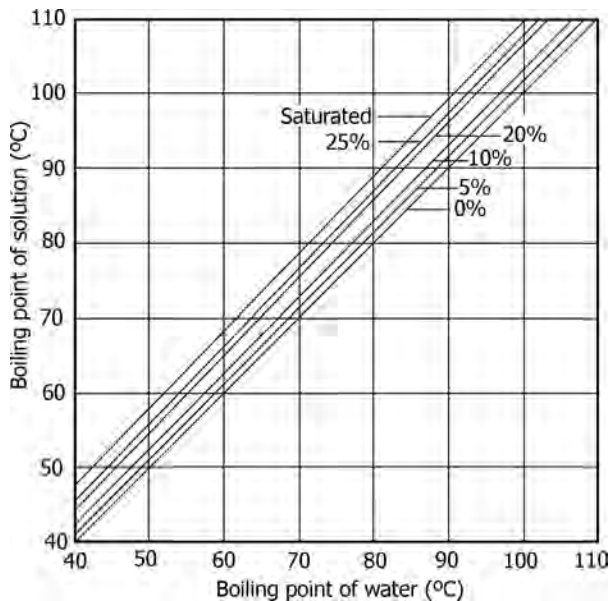

FIGURE 11.25 Duhring plot for sodium chloride solutions.
- Duhring plot gives the boiling point of solutions of different concentrations at different pressures, through interpolation along a line of constant composition (Figure 11.25).